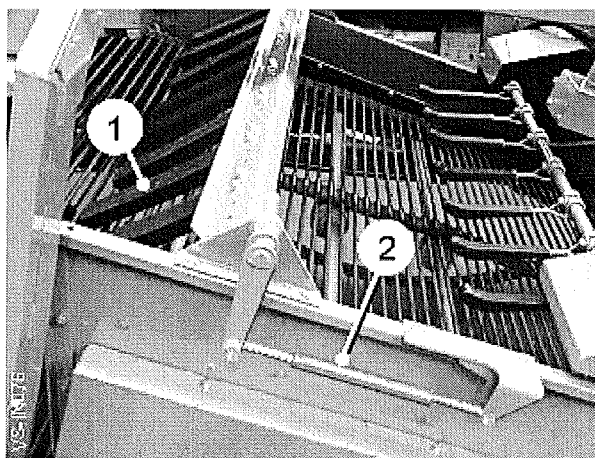

Fig 11
The clod breaking fingers consist of one or two rows of trailing rubber blocks (item 1, fig 11). These operate by rolling the clods and potatoes which, in some soil conditions, has the effect of splitting the clods and allowing the smaller pieces to fall through the web.
To vary their effectiveness the clod fingers can be raised above or lowered down onto the web by adjusting the turnbuckle (item 2, fig 11). Care should be taken not to set the fingers to operate too rigidly onto the web or bruising and skin scuffing may occur.